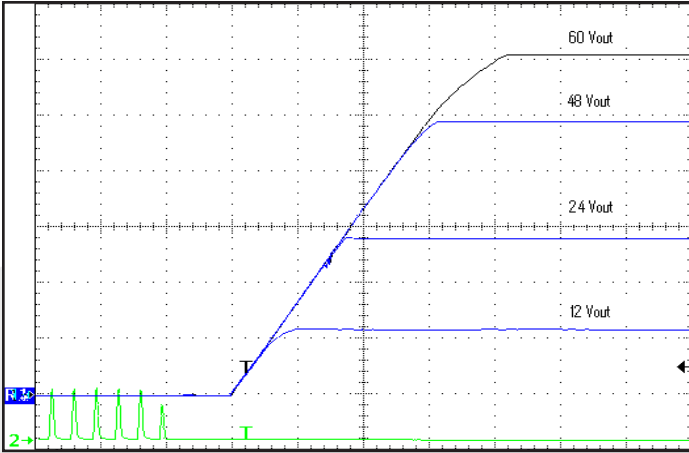

Figure 7: Turn-on transient at 28V input; full load (10ms/div). Top Traces: Vout (10V/div). Bottom Trace: ON/OFF input (5V/div)
**REMOTE ON/OFF:** Only Negative On/Off logic is available in the converter series: logic high at the input turns the converter Off while a logic low turns in On. Timing of this is shown in Figures 7, 8. A high level can be driven to any voltage between 1.5V and 3.3V, or simply left floating as the unit contains an internal 25KΩ pull-up to 5.0V. The pin can be pulled low (to Vsense-) by an optocoupler, an open-source/drain transistor or wired permanently to Vsense-. To provide noise immunity the input has 0.3V of hysteresis.